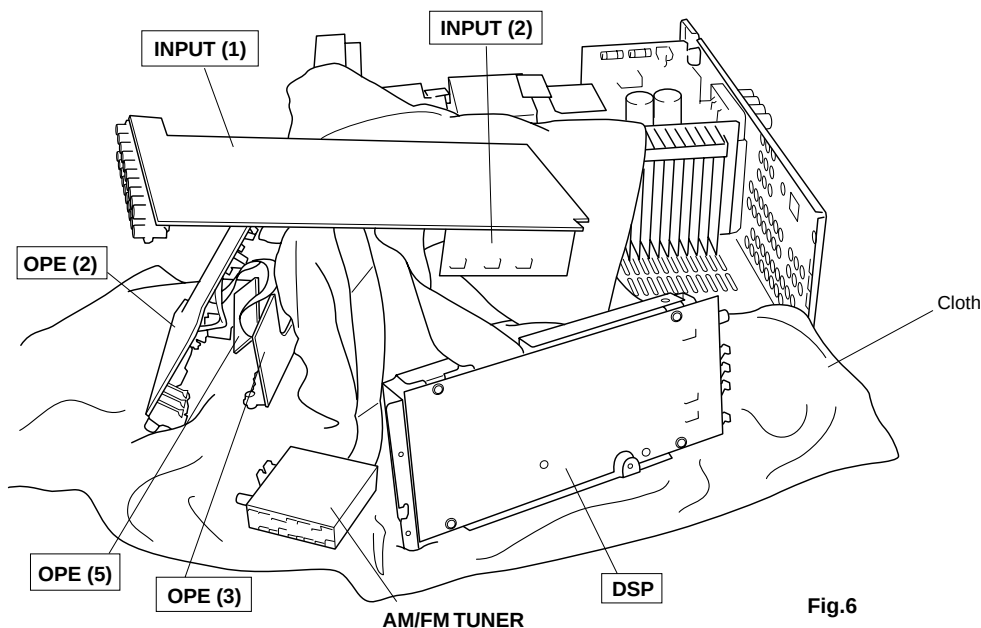

Fig.6
- Place the INPUT (1)/(2) P.C.B. as shown in Fig. 6 and check them for operation.